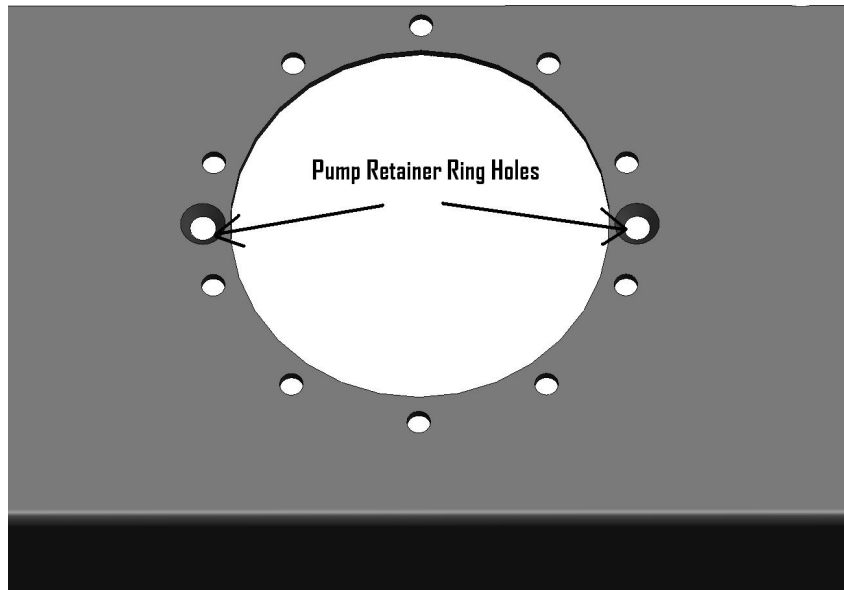

FIGURE 1-1
2. Use a 3.5" hole saw to cut out the pump hole. Lower the pump into the hole and use a transfer punch to locate the 10 mounting holes. Remove the pump and drill the holes using a .221" drill bit. Drill two more holes for the pump retainer ring 180 degrees apart. Refer to **Figure 1-1** for the placement of these two holes.
3. Now take an 82-degree chamfer tool and chamfer the two holes for the pump retainer ring. Once finished it should look as shown in **Figure 1-1**.